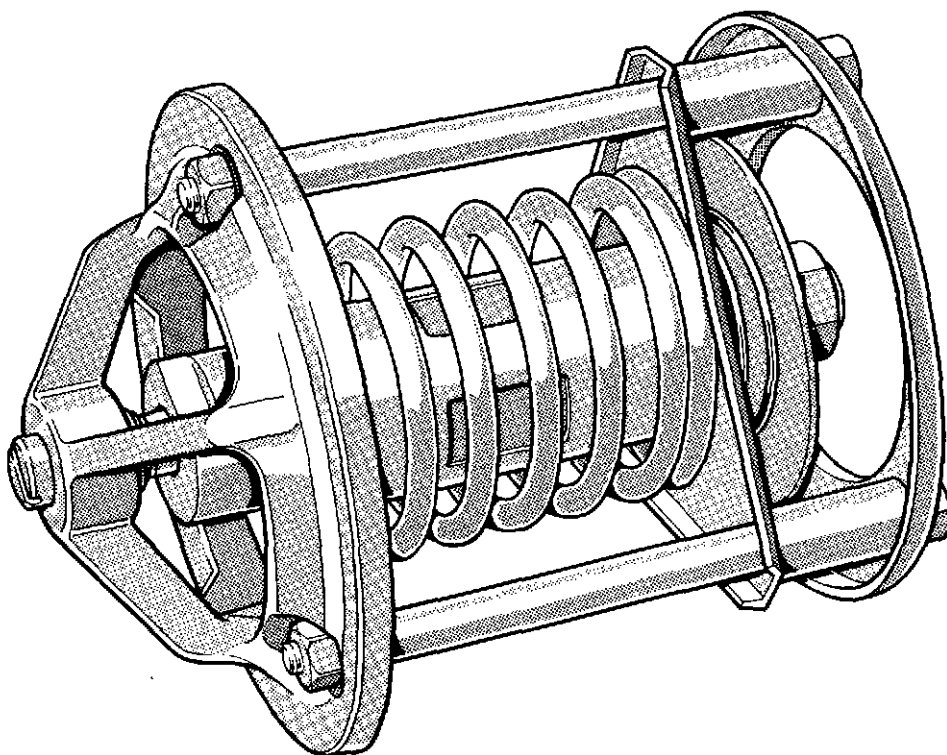

Fig. 2 Thermostat valve
- 4 Drain the coolant to below the level of the thermostat housings. Disconnect and remove the coolant pipe between the radiator inlet and the bifurcated discharge connection on the 'B' bank thermostat. Remove the discharge connection and hose from the thermostat housings as necessary. Withdraw the thermostat (fig. 2).